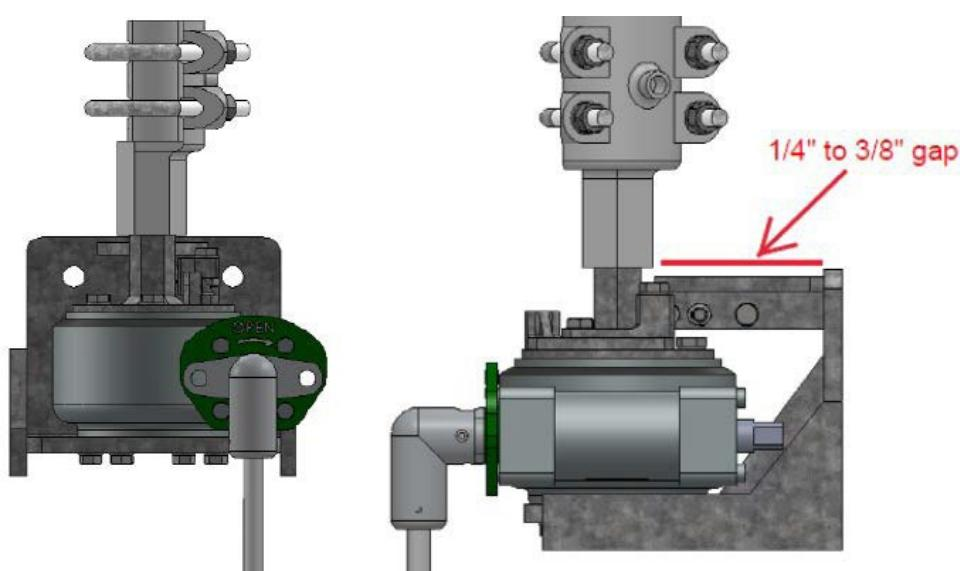

Figure 17: Type SEGO (Safety Enhanced Gear Operator)
5.7 **CAUTION:** The pipe collar (above the vertical bearing support) must support the entire weight of the vertical operating pipe. **Do not allow the pipe to rest on the switch operating device.** Refer to **Figure 16 & Figure 17**.